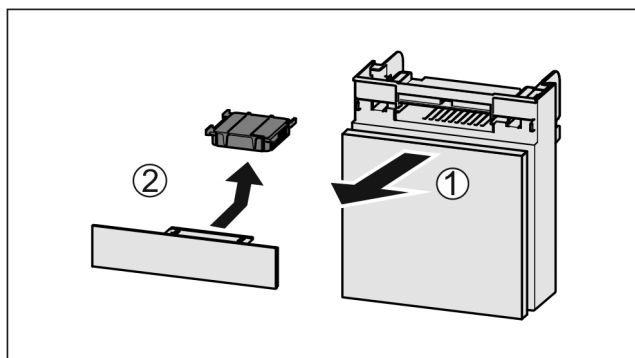

Fig. 135
- Pull out the compartment Fig. 135 (1).
- Remove the carbon filter Fig. 135 (2).